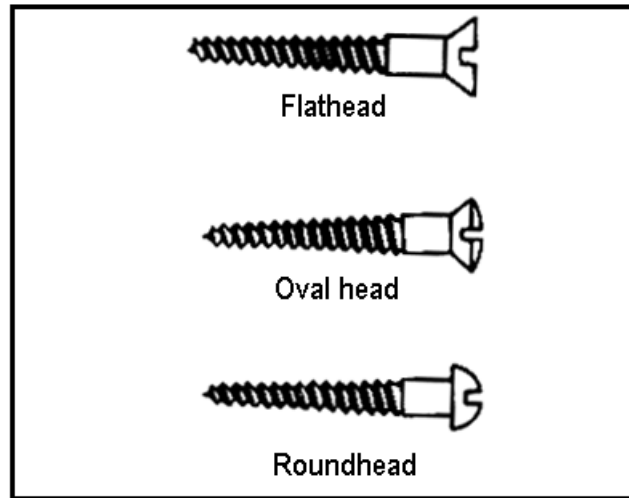

Figure 051-236-1184-1
- (1) Advantages.
- (2) Designs. It is designed according to the head style (Figure 051-236-1184-1).